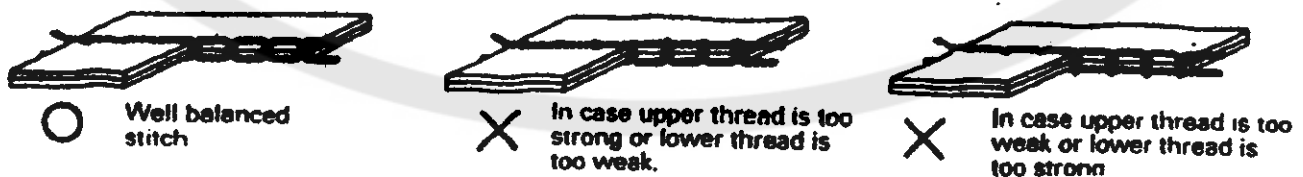

Fig.11
15、 Adjustment of the thread tension (Fig.11):